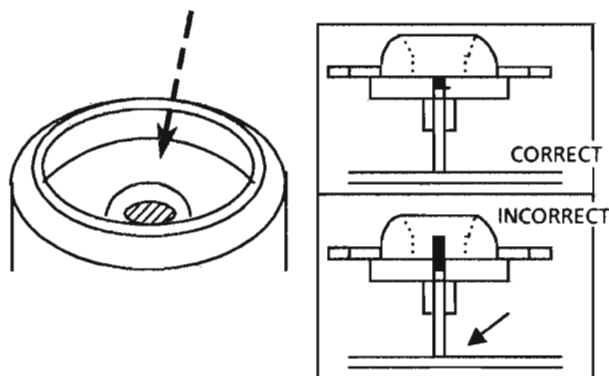

Fig 15
- (4) After inserting the turntable, bond the motor shaft and turntable together (at the section marked by an arrow in fig 15 on the left below).
- (5) Use "LOCTITE" #460 bonding agent, and apply as little as possible. Take care not to allow any excess bonding agent to get onto the turntable. Be extremely careful not to allow bonding agent to adhere to the motor bearings (the section marked by an allow in fig 15 on the right).